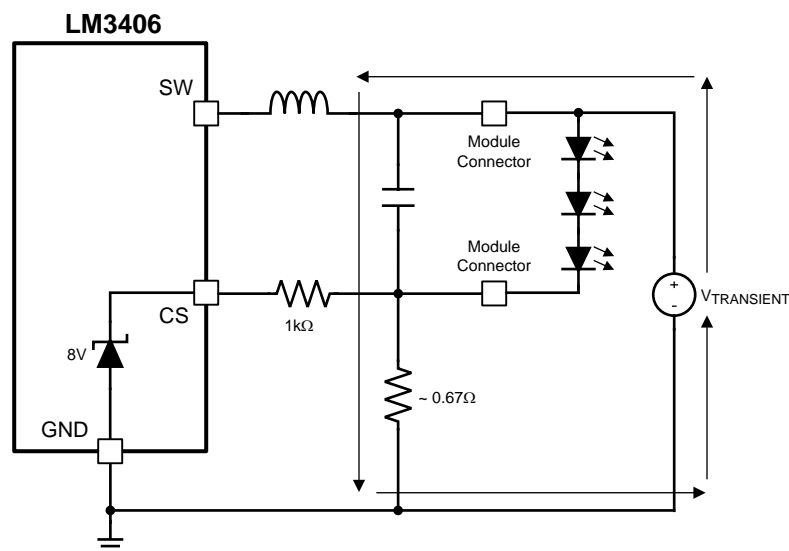

Figure 19. CS Pin, Transient Path with Protection
From measurements, we know that the 8V ESD structure on the CS pin can typically withstand 25mA of direct current (DC). Adding a 1kΩ resistor in series with the CS pin, shown in Figure 19, results in the majority of the transient energy to pass through the discrete sense resistor rather than the device. The series resistor limits the peak current that can flow during a transient event, thus protecting the CS pin. With the 1kΩ resistor shown, a 33V, 49A transient on the LED return connector terminal could be absorbed as calculated by: